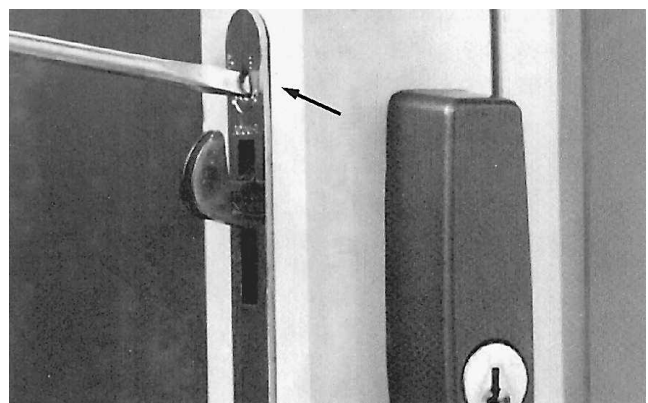
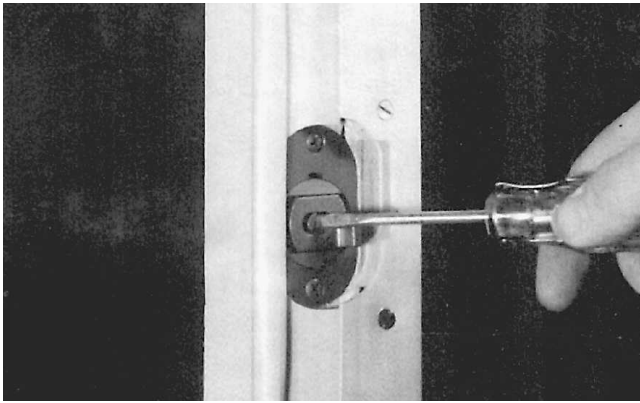

Fig. 9-149 The throw of the door is adjusted by this screw. (Andersen.)
Fig. 9-150 Lock adjustment on a triple door. (Andersen.)
13. If it is necessary to adjust the throw of the latch on two-panel doors, turn the adjusting screw to move the latch in or out (Fig. 9-149). The lock may be adjusted on triple doors by loosening the screw to move the lock plate (Fig. 9-150).